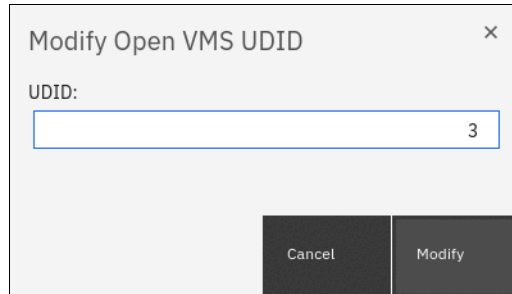

Figure 6-55 Setting the volume UDID
2. Specify the UDID for the volume and click **Modify**, as shown in Figure 6-55 on page 427.